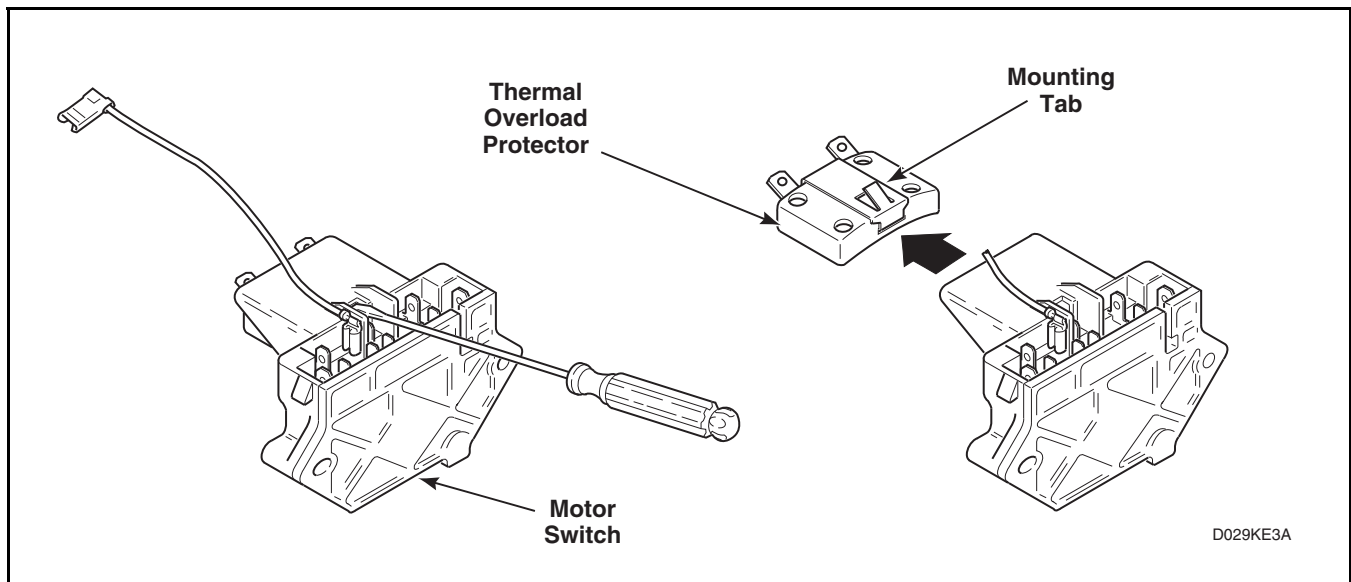

Figure 6
Refer to *Figure 6*. Disconnect switch leads.
Using a small bladed screwdriver, press the thermal overload protector mounting tab downward and remove the thermal overload protector from the inoperative motor switch. Refer to *Figure 6*.
- e. Install new motor switch onto motor and reconnect motor switch leads removed in Step “b”. Refer to *Figure 6*.